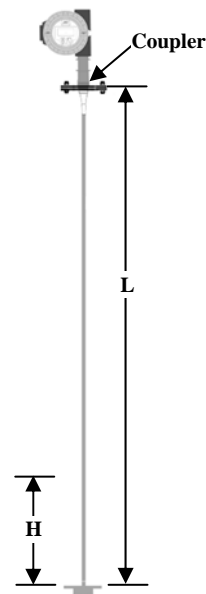

Figure 4.5
Example: Probe length (L) is 360" from the target to the coupler. The product dielectric is 1.4. Desired 4 mA point is 12" above the target (H=12"). Desired 20 mA point is 24" below the coupler (H=336"). See Figure 4.5.
Example: Using the same conditions in Step 6, we establish a level 24" from the top of the probe/cable (H = 336"). The readout on the MT2000 indicates 421.56". Calculate DC as follows (Refer to Figure 4-5):